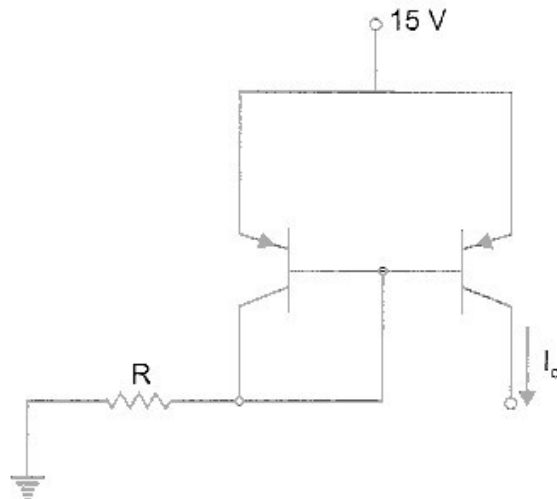

Fig. P. 2.15
- 2.15. For the current mirror shown in Fig. P. 2.15, determine R so that $I_o = 100 \mu\text{A}$.